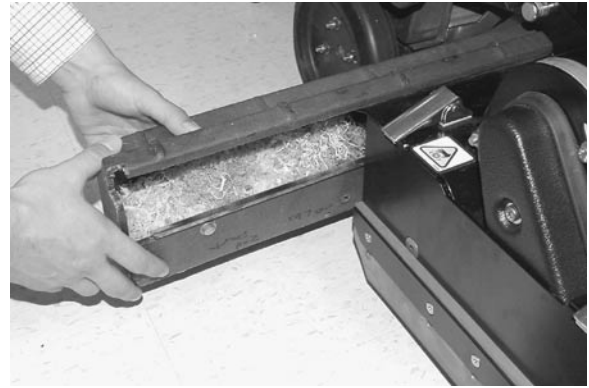

FIG. 34
3. Empty and rinse out debris trough (Figure 34).